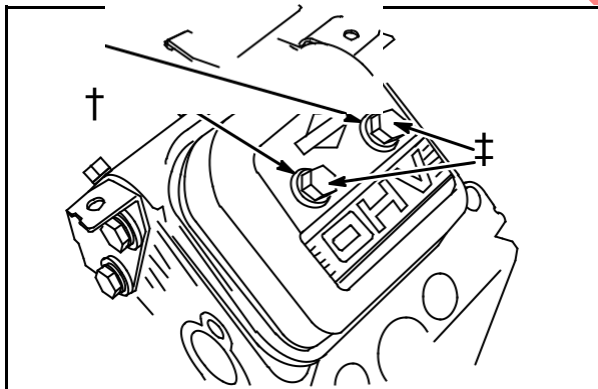

Fig. 14
Install valve covers with new gaskets and valve cover seals (6), **Fig. 14**. Torque nuts (7) to **25 in. lbs. (3 Nm)**.